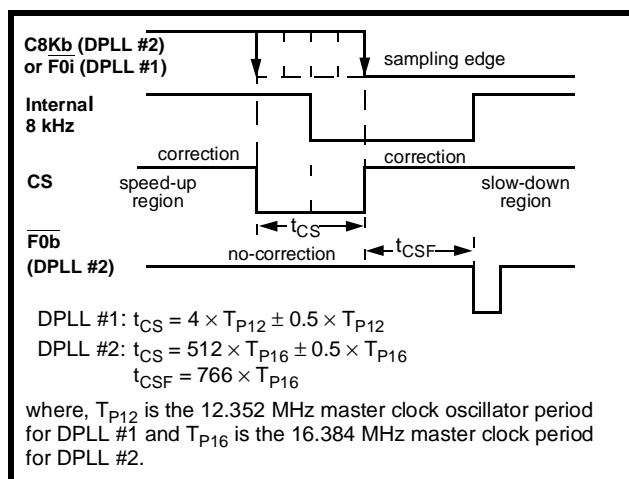

Figure 4 - Phase Comparison
As shown in Figure 4, the falling edge of the 8 kHz input signal (C8Kb for DPLL #2 or F0i for DPLL #1) is used to sample the internally generated 8 kHz clock and the correction signal (CS) once in every frame (125 μs). If the sampled CS is "1", then the DPLL makes a speed-up or slow-down correction depending upon the sampled value of the internal 8 kHz signal. A sampled "0" or "1" causes the frequency correction circuit to respectively stretch or shrink the master clock by half a period at one instant in the frame. If the sampled CS is "0", then the DPLL makes no correction on the master clock input. Note that since the internal 8 kHz signal and the CS signal are derived from the master clock, a correction will cause both clocks to stretch or shrink simultaneously by an amount equal to half the period of the master clock.
The no-correction window size is 324 ns for DPLL #1 and 32 μs for DPLL #2. It is possible for the relative phase of the reference signal to swing inside the no-correction window depending on its jitter and the relative drift of the master clock. As a result, the phase relationship between the input signal and the output clocks (and frame pulse in case of DPLL #2) may vary up to a maximum of window size. This situation is illustrated in Figure 4. The maximum phase variation for DPLL #1 is 324 ns and for DPLL #2 it is 32 μs. However, this phase difference can be absorbed by the input jitter buffer of Mitel's T1/CEPT devices.